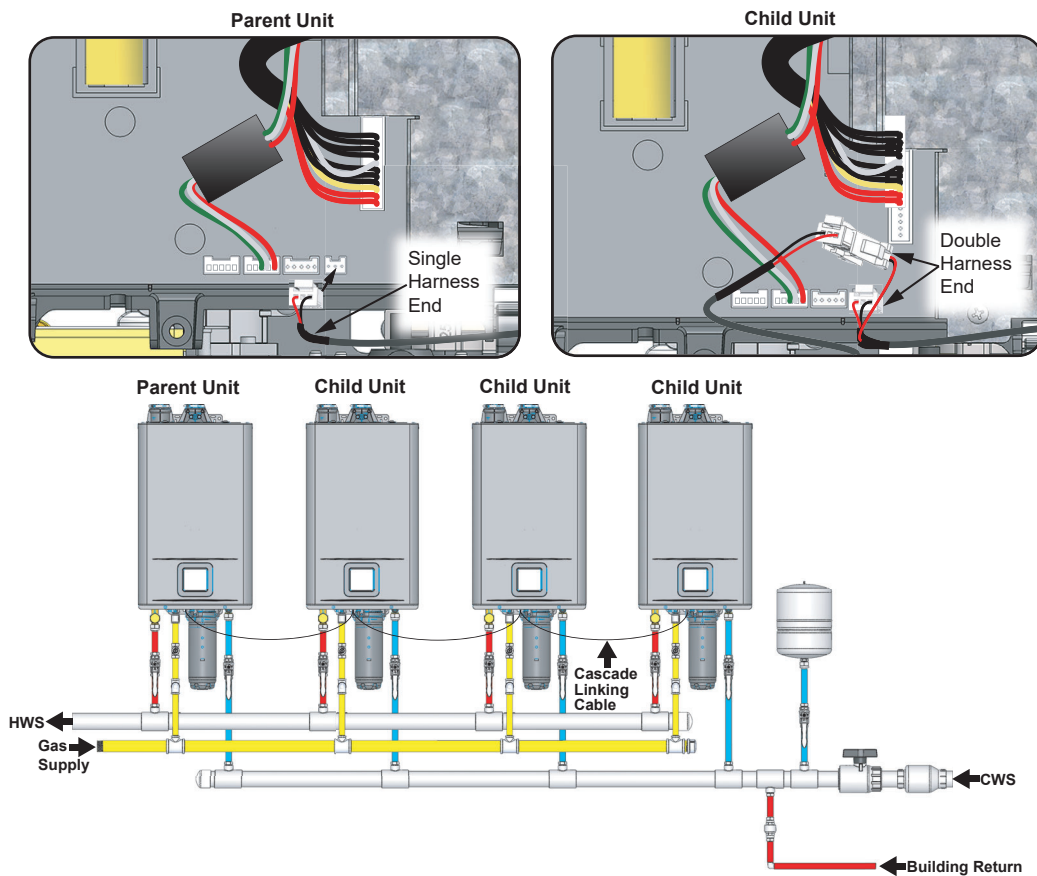

Figure 39 - Multi Unit Cascade Configuration
**1** The Cascade system should be configured with the Parent water heater as either the first or last in the series of water heaters connected to the cold water supply. The Child units will follow sequentially. See Figure 39.
**7** Use Figure 39 as a reference to locate the connection point for the Parent Cascade Unit. Use the single harness end of the Cascade Linking Cable to make the initial connection.
**9** If more than one Child water heater is used then route the single harness end of the second Cascade Linking Cable through rubber grommet on the bottom of the first Child water heater and connect it to the open harness on the first Cascade Linking Cable as shown in Figure 39.